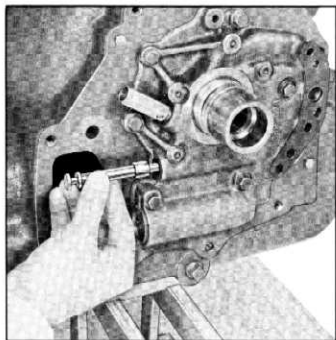

Fig. 70—Removing Manual Valve
14. Remove manual valve from valve body (fig. 70) and manual valve lever from turbine housing and also remove bronze thrust washer from valve body delivery sleeve. Then remove all bolts attaching valve body